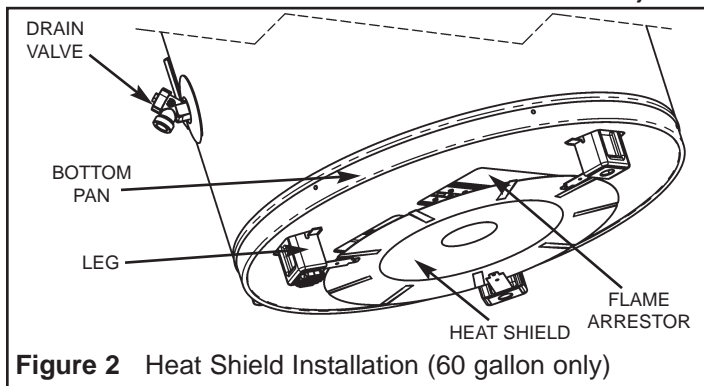

Figure 2 Heat Shield Installation (60 gallon only)
Shield (see Figure 2). This Shield reflects heat from the High-input heaters to prevent damage to combustible floors. The Shield is held in place by three (3) tabs that rest on the inside of the legs of the water heater. Ensure the Shield is positioned horizontally (parallel to the bottom of the heater) and in the designated position of 38mm (1.5 in.) below the flame-arrestor.